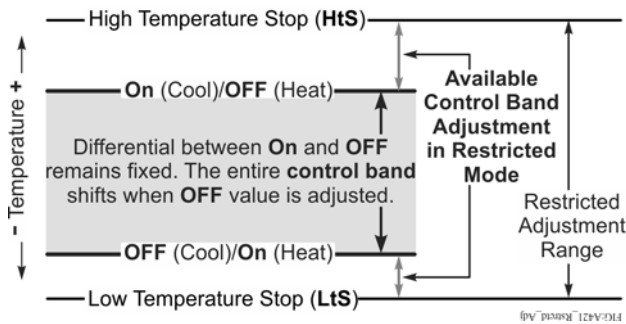

Figure 9: Adjustment Behavior in Restricted Adjustment Mode
Restricted Adjustment Mode: The HtS and LtS values define the restricted adjustment temperature range and are enforced only when the A421 control is set to the restricted adjustment mode (Figure 9). See *Restricting User Adjustment*.
You can restrict user adjustment of the A421 control to either just OFF value (control band) only and limit the range of this value (Figure 9).
- The **OFF** value can only be adjusted to values that maintain the entire control band within the restricted temperature adjustment range defined by HtS and LtS. See Figure 9.
2. Select the **OFF** and **On** values that define the application's required control band (Figure 9).
3. Change the **HtS** and **LtS** temperature values to define the restricted adjustment range (Figure 9).
Control adjustment is now restricted to changing only the **OFF** value, which shifts the On/OFF control band within the restricted adjustment range defined by HtS and LtS (Figure 9).